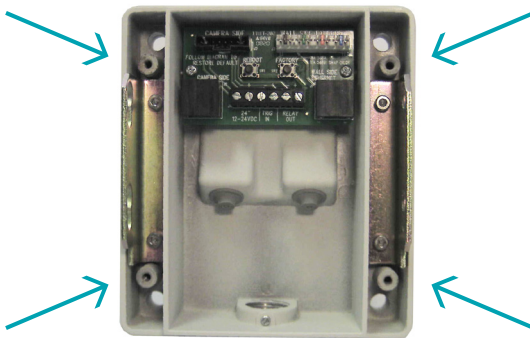

Figure 4
1. As the arrows (Figure 4) indicate, use the supplied wall mount template to locate the four mounting holes for the power/data back box.
2. Drill four (4) holes for the mounting screws using the included mounting template as a guide. If installing outdoors, apply a weatherproof sealant around each hole at the mounting surface.
3. Provided are four (4) #14 x 2" flanged (approximately 10 mm head x 50.1 mm in length), hex head screws that can be used to install into a variety of wood and metal substrates. If mounting into wooden studs, it is recommended that a 1/8" (3 mm) wide by 2" (4.8 cm) deep pilot hole be drilled prior to installing the screws. Alternatively, the installer can provide screws with a head diameter less than #14 (3/8" or 10 mm) in size so that they can fit into the junction box opening.